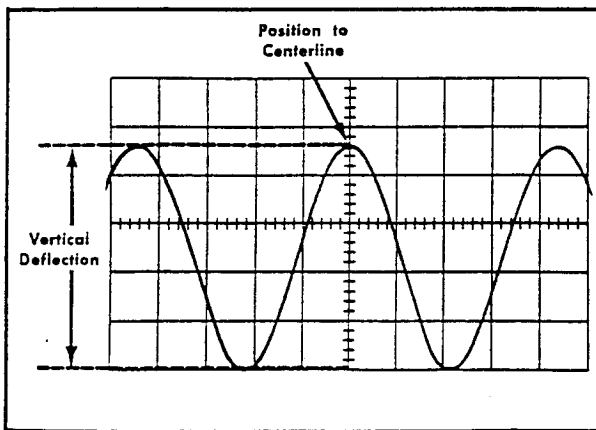

Fig. 2-14. Measuring peak-to-peak voltage of a waveform.
6. Turn the Vertical POSITION control so the lower portion of the waveform coincides with one of the graticule lines below the centerline, and the top of the waveform is on the viewing area. With the Horizontal POSITION control, move the display so one of the upper peaks lies near the vertical centerline (see Fig. 2-14).
**Example.** Assume a peak-to-peak vertical deflection of 4.6 divisions (see Fig. 2-14) using a 10X attenuator probe and a VOLTS/DIV switch setting of .5.